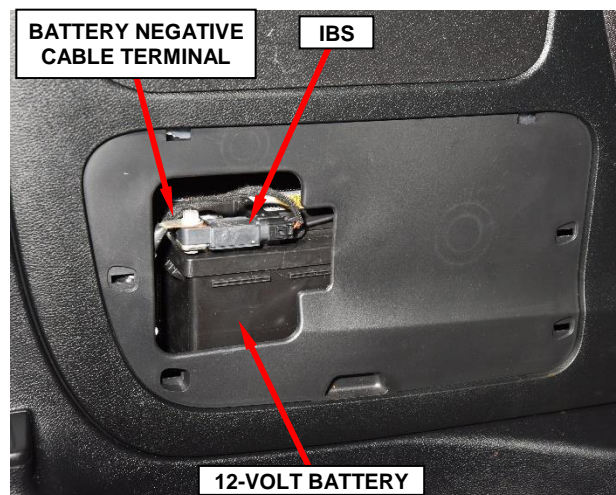

Figure 18 – Battery Negative Cable
18. Remove the nut securing the battery negative cable terminal to the Intelligent Battery Sensor (IBS) (Figure 18).
19. Disconnect and isolate the battery negative cable terminal from the IBS (Figure 18).
32. Connect the battery negative cable terminal to the IBS (Figure 18).
33. Install the nut securing the battery negative cable terminal to the IBS and tighten to 9 N·m (80 in. lbs.) (Figure 18).